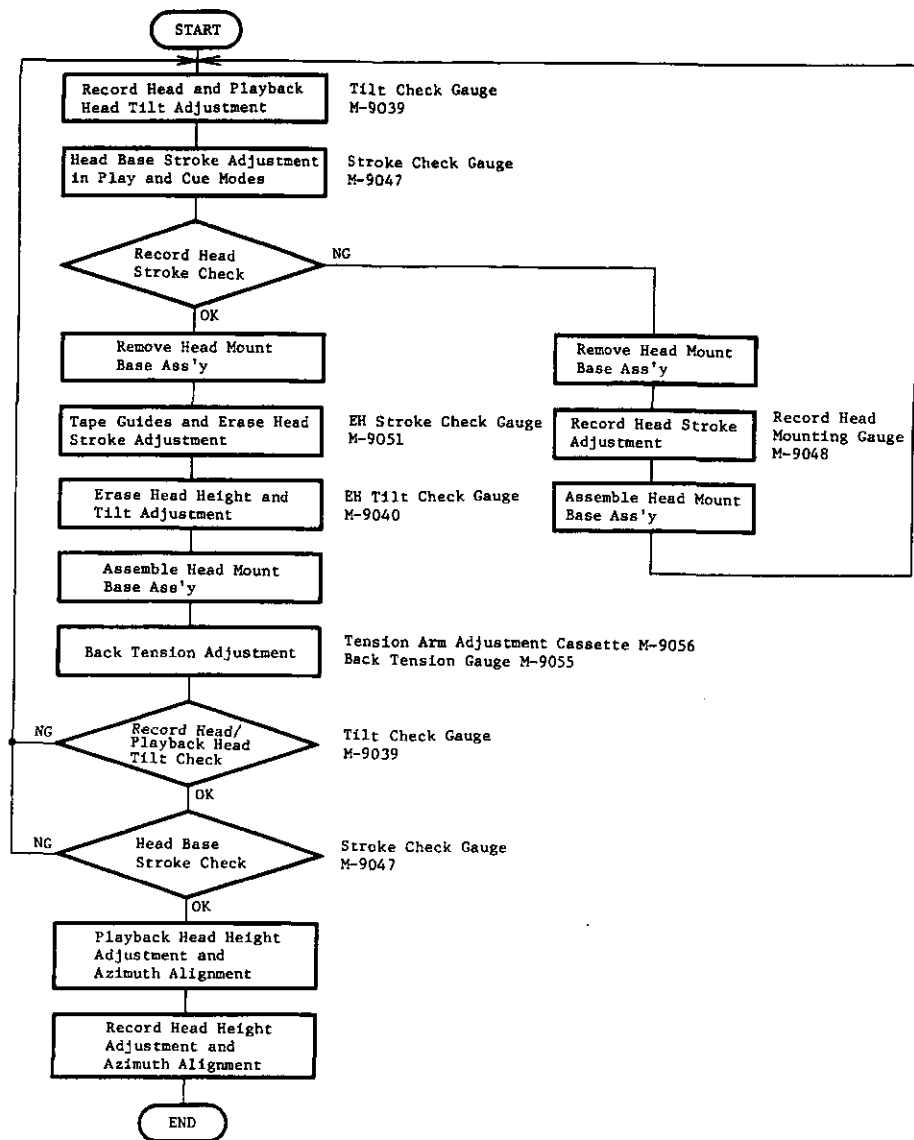

Fig. 4.4
Note: On items 4.3 – 4.9, refer to Fig. 4.4 flow chart.